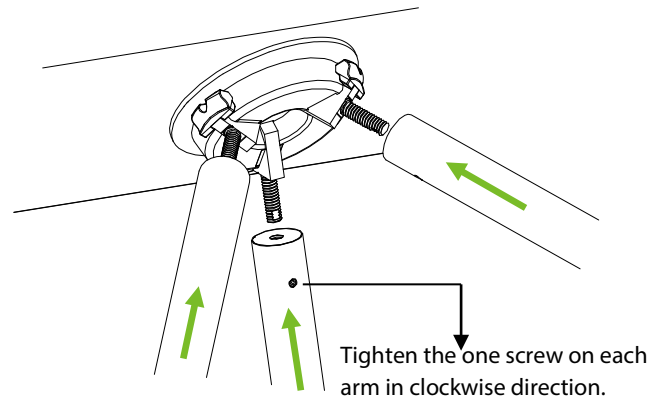

Figure 2-2
2. Rotating the arms to the connection points until it was fastening, and use the Hex key to fasten the one screw on each arm, as shown in figure 2-2.